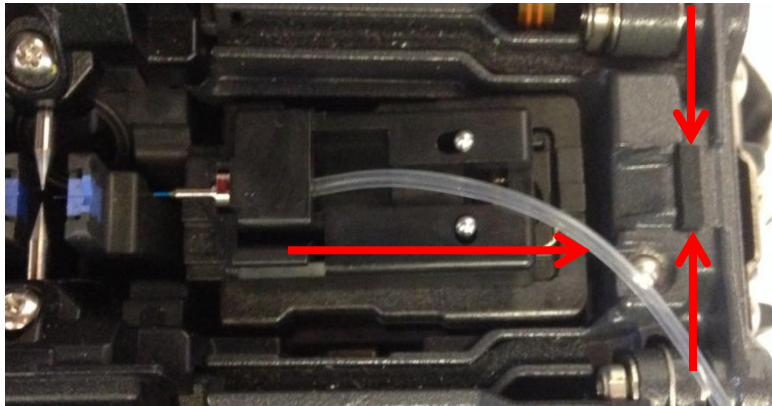
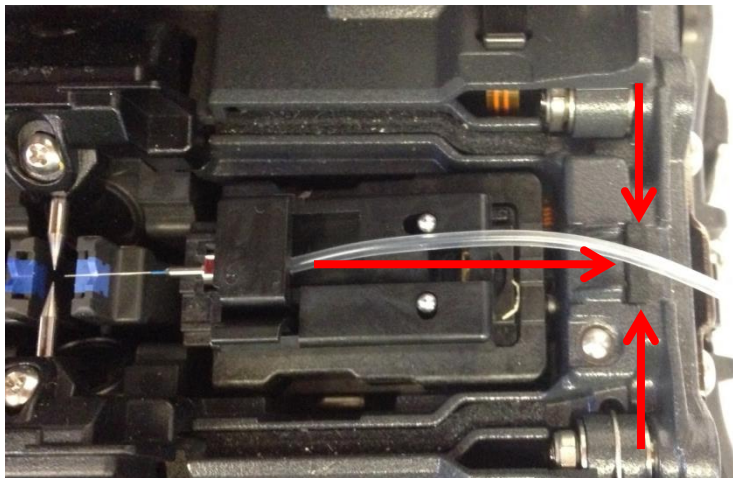
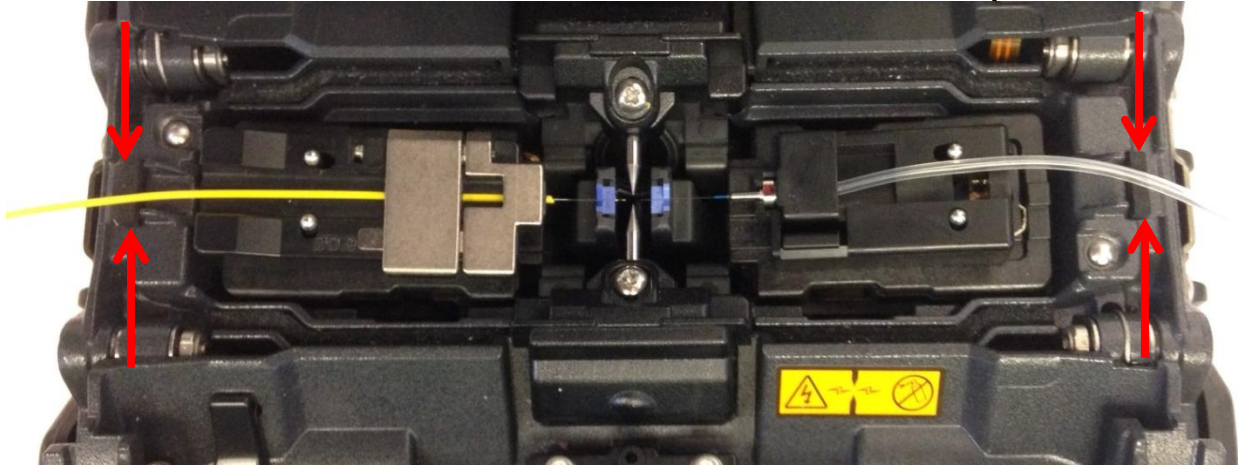

Figure 1: Incorrect placement of rubber transfer tubing.
Figure 2: Correct placement of rubber transfer tubing.
Figure 3: Correct placement of rubber transfer tubing and incoming fiber.
**METHOD A:** Figure 1 shows the rubber transfer tubing on the FuseConnect pre-polished end not placed over the center of the clamshell. This may prevent the motors from moving the connector freely into proper position for splicing, causing motor issues. Figure 2 shows the rubber transfer tubing properly placed over the center of the clamshell. Care should also be used on the user prepared end of incoming fiber as shown in Figure 3.